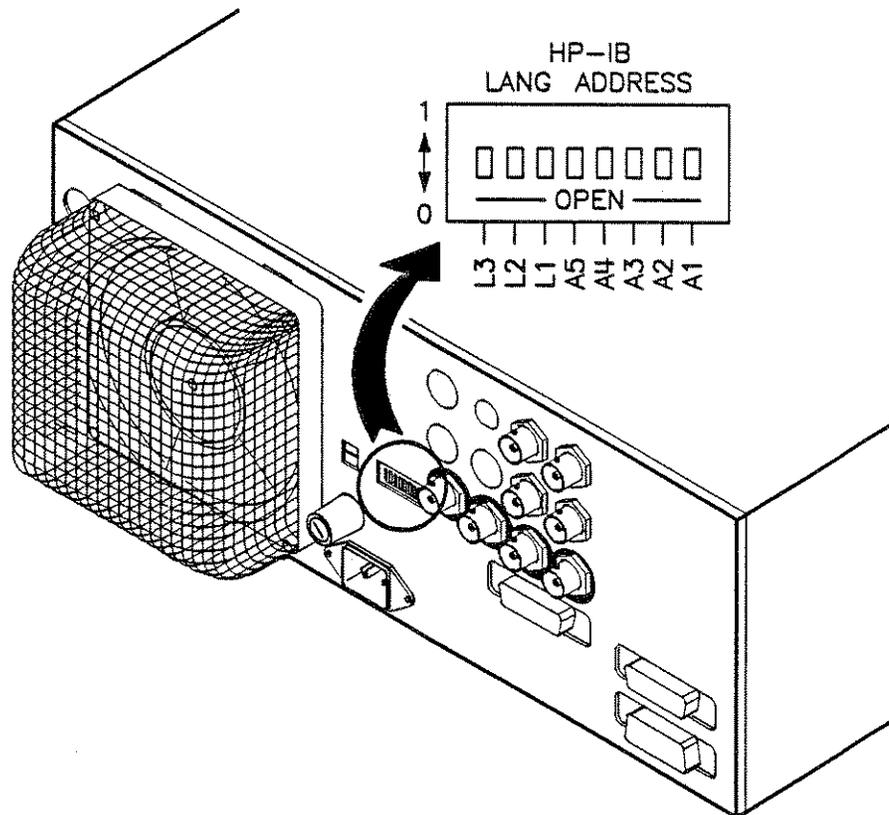

Figure 3-5. Rear Panel HP-IB Switch
To set a programming language from the front panel, the instrument language on the rear panel HP-IB switch (L1, L2, and L3 Figure 3-5) *must* be set to 7 (all 1s).
If the synthesizer displays Rear panel HP-IB language must be 7 (111) in order to change current language (=XXX), the address on the rear panel HP-IB switch (Figure 3-5) is set to something other than 7 (all 1s).
If your synthesizer does not have a front panel, set the rear panel HP-IB switch (Figure 3-5) for the language you want (see Table 3-1 for language addresses).
To set an HP-IB address from the front panel, the instrument address on the rear panel HP-IB switch (Figure 3-5) *must* be set to 31 (all 1s).
If the synthesizer displays Rear panel HP-IB address must be 31 (11111) in order to change current address (=XX), the address on the rear panel HP-IB switch (Figure 3-5) is set to something other than 31 (all 1s).
To disable the address softkeys, set the instrument address on the rear panel HP-IB switch (Figure 3-5) to any address *other than* 31 (all 1s).
If your synthesizer does not have a front panel, set the address on the rear panel HP-IB switch (Figure 3-5) to the address you want (factory default is 19).